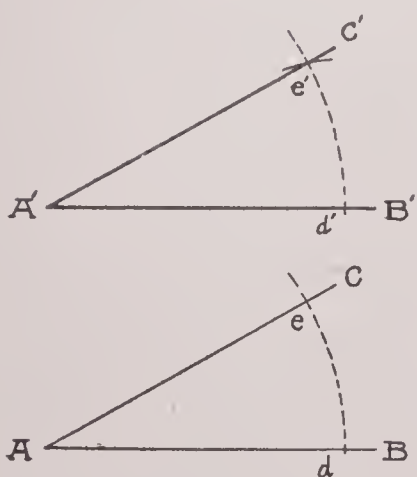

Fig. 1
In drawing the block letters, it is best, in order to give each letter its correct proportions, to divide the height of the letter into five equal parts and make the widths as follows: All the letters and figures except I, M, and W, and the figure 1, should be four such parts in width, M being five parts, W six parts, and I and 1 but one part. The thickness of all the lines should be one part. A good size for ordinary lettering is five-sixteenths of an inch in height, the greater number of the letters then being one-fourth of an inch wide.
1. To CONSTRUCT an angle equal to a given angle (Fig. 1):